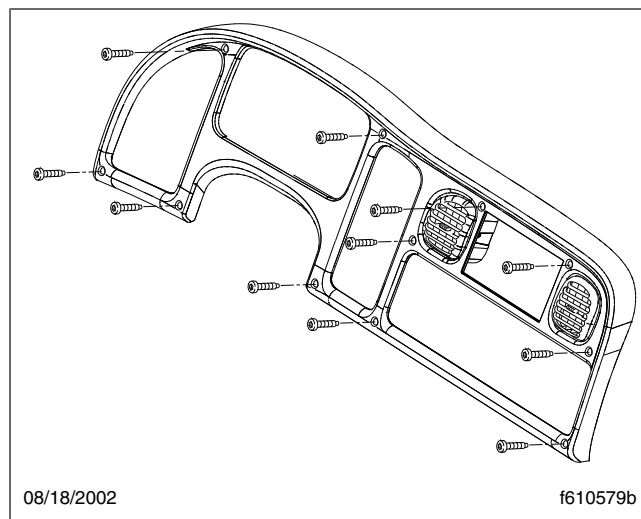

Fig. 2, Dash Trim Piece
4. Remove the dash trim piece by removing the eleven screws that secure it. All fasteners for this procedure are 10–16 Torx® capscrews. See Fig. 2.